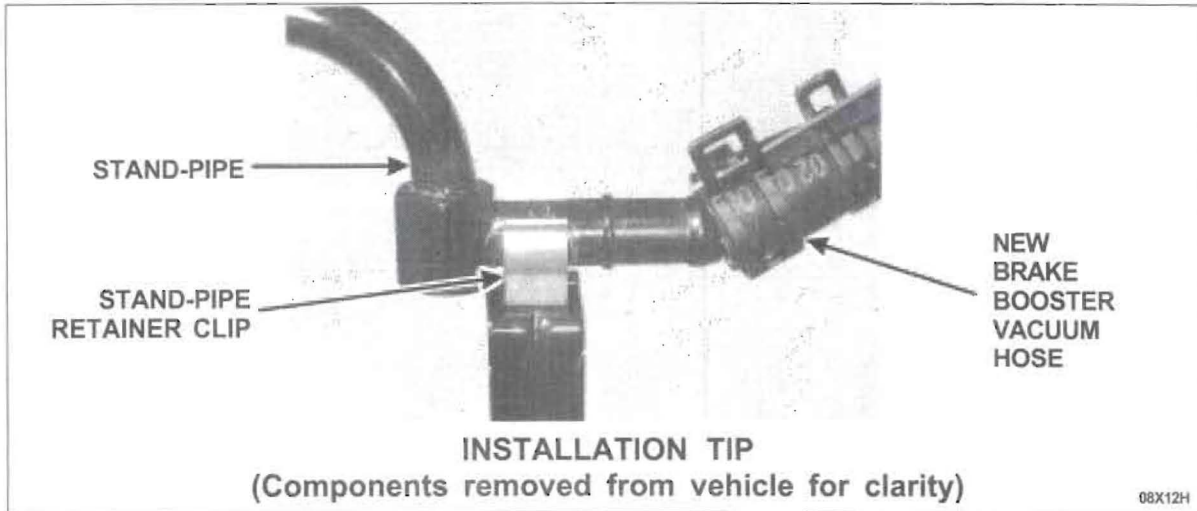

FIGURE 8
1. Make sure that the brake booster vacuum stand-pipe remains clipped into the retainer during installation of the brake booster vacuum hose. See Figure 8.
**INSTALLATION TIP:** When installing the *new* brake booster vacuum hose, position the hose at an angle to the stand-pipe fitting. Then, slowly twist the hose assembly as you push it onto the stand-pipe fitting. See figure 8.